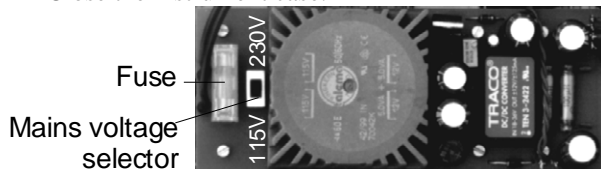

Figure 2: Power Supply PCB
- Set the switch to the required voltage (Figure 2).
The fuse holder is located on the power supply PCB inside the instrument case (see Figure 2). To replace the fuse, take off the plastic lid of the fuse holder first.